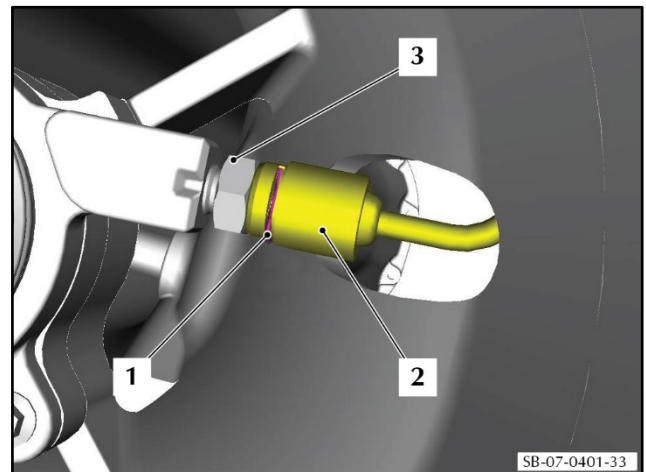

Figure 35
63. Remove the clip (1) that attaches the connector (2) for the clutch fluid tube assembly (tube assembly) to the concentric slave cylinder (3) (cylinder) (refer to Figure 35).
64. Disconnect the tube assembly (2) from the cylinder (3) (refer to Figure 35).